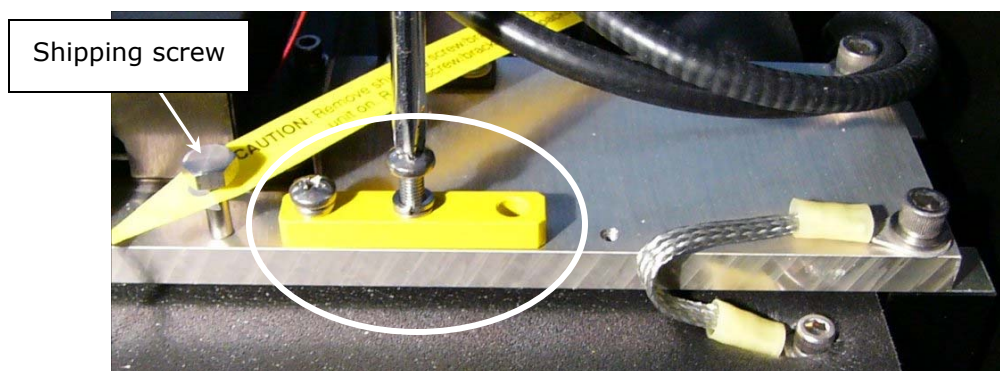

Figure 7: Carrier shipping screw and optic arm shipping block stored on the base plate.
3. Use the supplied wrench to remove the microplate carrier shipping screw. You will store the screw on the base plate as shown in **Figure 7**. Pull the flexible carrier shipping tube off of the carrier. Store the tube in the plastic storage pocket. Use the supplied fastener strips to attach the pocket to the back of the reader for storage.